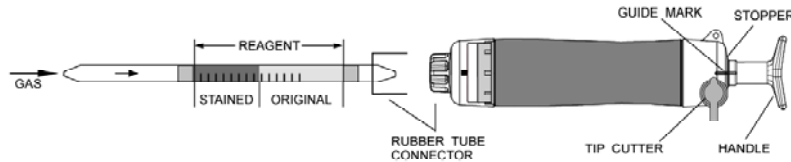

Fig.1
- ② Insert the detector tube into aspirating pump securely as shown in Fig.1. (Arrow mark shall point to the pump.)
- ③ Align the guide marks on the shaft and stopper of the aspirating pump.
- ④ Pull the pump handle at full stroke until it locks and wait for 1.5 minutes or until the completion of sampling is confirmed with the flow indicator of the pump (See descriptions about the flow indicator in the instructions of the pump).
- ⑤ On completion of sampling, read the scale at the maximum point of the stained layer.
- ⑥ In case of 5 pump strokes: After the above step ④, push the handle without removing the detector tube from the pump inlet, turn it right or left by 1/5, and repeat the step ④ and this pushing procedure another three times.
- ⑦ On completion of 5 pump strokes sampling, read the scale at the maximum point of the stained layer and then multiply the reading value by 1/5.